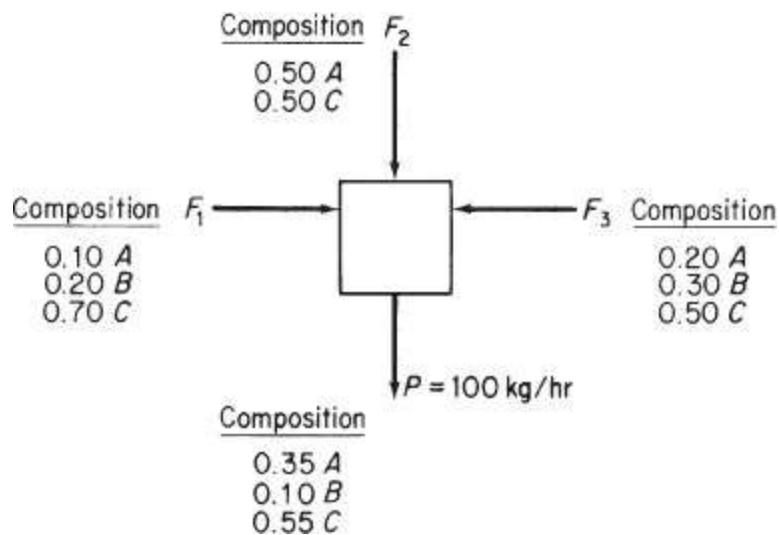

Figure P3.2.2
**3.2.2. For the process shown in Figure P3.2.2, how many material balance equations can be written? Write them. How many independent material balance equations are there in the set?